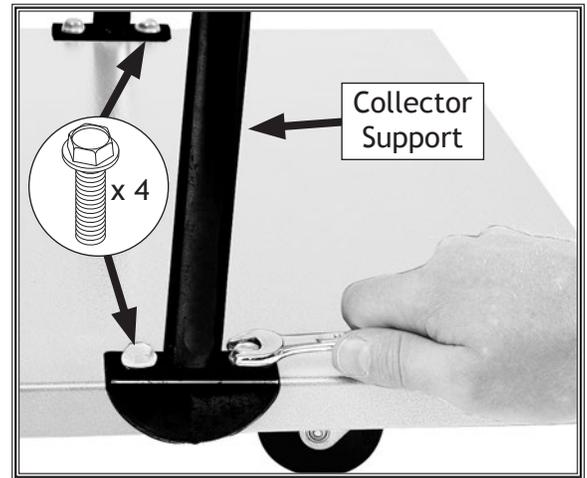

Figure 15. Installing collector support.
11. Align each of the collector supports with the mounting holes on the base, as shown in **Figure 15**, then secure them in place with (4) $\frac{5}{16}$ "-18 x $\frac{1}{2}$ " flange bolts.